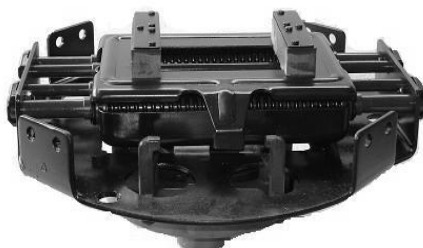
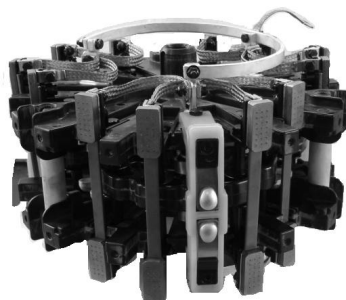

Figure 4
Figure 5
2.1.1 Diverter switch body consists of insulation shaft (Fig 3), energy storage unit (Fig 4), diverter unit(contacts system)(Fig 5) and transition resistance (Fig 6).
The contacts system of diverter switch adopts “double resistance transition” and parallel double fracture “tail thrust compensation” open type contacting, it includes fixed contacts and moving contacts system, the specific mechanism as shown in Fig 5.